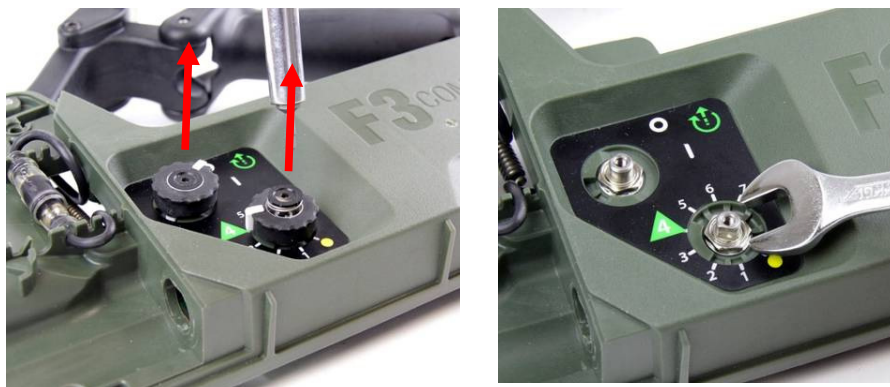

Figure 93: Removing Control Switch Knobs
- Using a 2mm hex key driver (allen key), undo the screws in the centre of each control knob and remove the screw, bush, spring and knob from the switches. Figure 93.